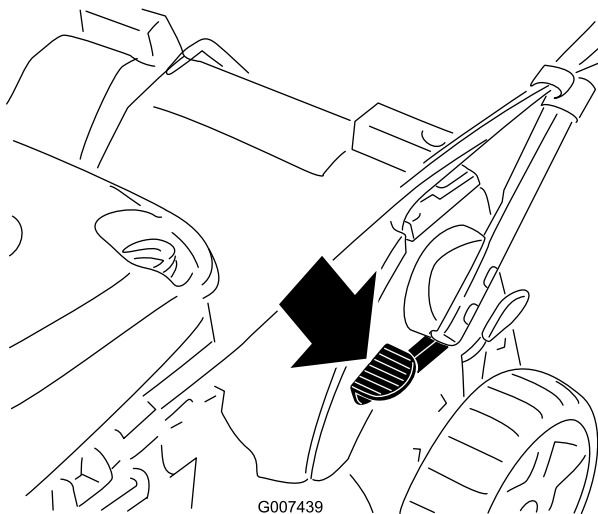

Figure 3
1. Step on the foot pedal and hold it down (Figure 3).